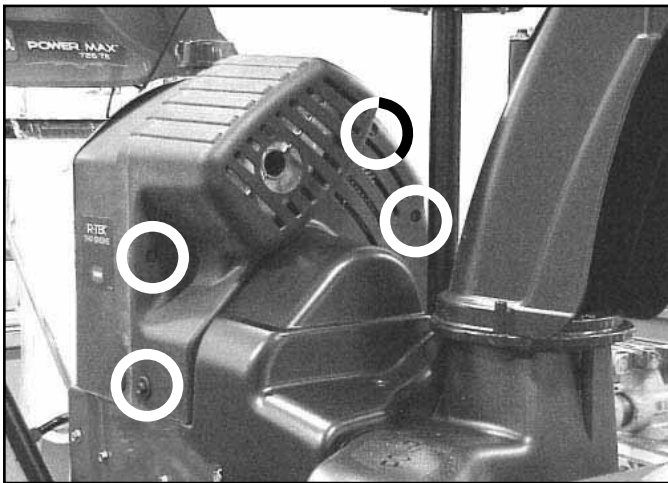

Fig 072
1. (2-cycle models only) Remove the 3 screws connecting the front and rear engine cover. Also remove two screws, one on each side, from the lower rear edge of the front cover. If the front engine cover is loose it will make removing the belt cover much easier (Fig. 072).